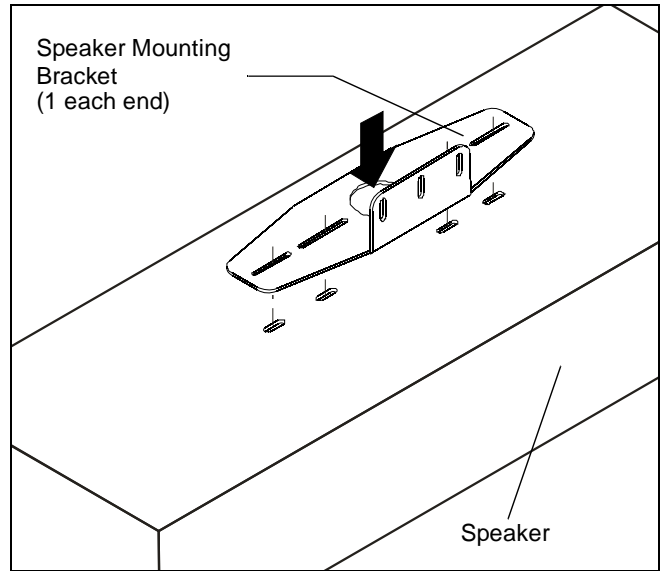

Figure 7
3. Install left and right speaker mounting brackets to speakers using the installation instructions provided with the speakers and the dimensional drawing below. (See Figure 7) and (See Figure 8)